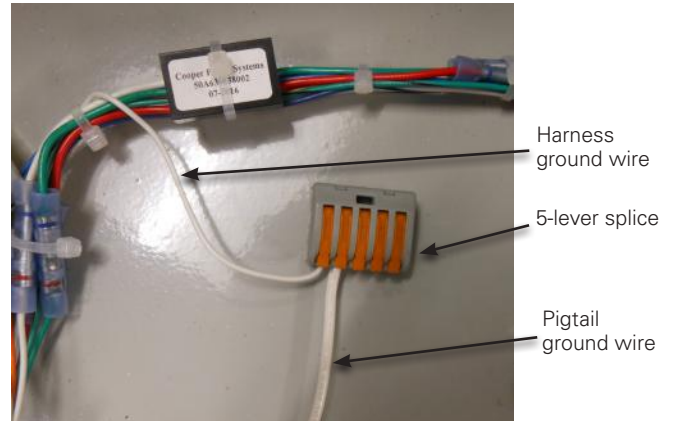

Figure 35. Connecting the pigtail and fork terminal harness grounds.
11. Identify the white ground wire from the pigtail harness (item 2). Cut the ring terminal from the end of the ground wire and strip 1/4" of insulation from the wire.
12. Identify the white ground wire lead in the fork terminal harness (item 1). Strip 1/4" of insulation from the white ground wire of the wire harness.
13. Use the 5-position lever splice to connect the ground wires from the pigtail to the QCA harness. See Figure 35.